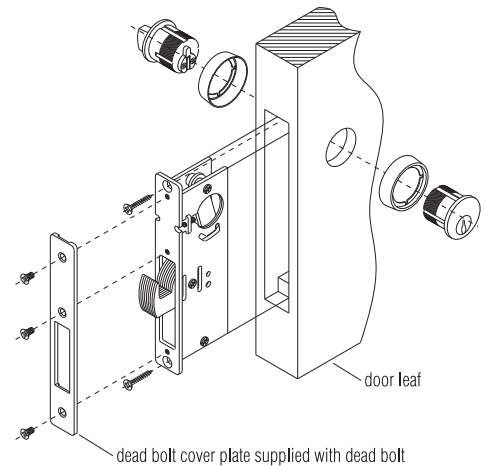

Figure 11
Following the manufacturer's directions, install the lock set in the pre-mortised opening in the door (Figure 11).
14. Position the latch plate in the door jamb and secure it. Slide the latch plate up over the cutout in the door jamb. Slide the door until it is nearly shut and actuate the lock so the position of the latch plate can be determined. Mark the location of the latch plate and secure it with the two screws provided (Figure 11).